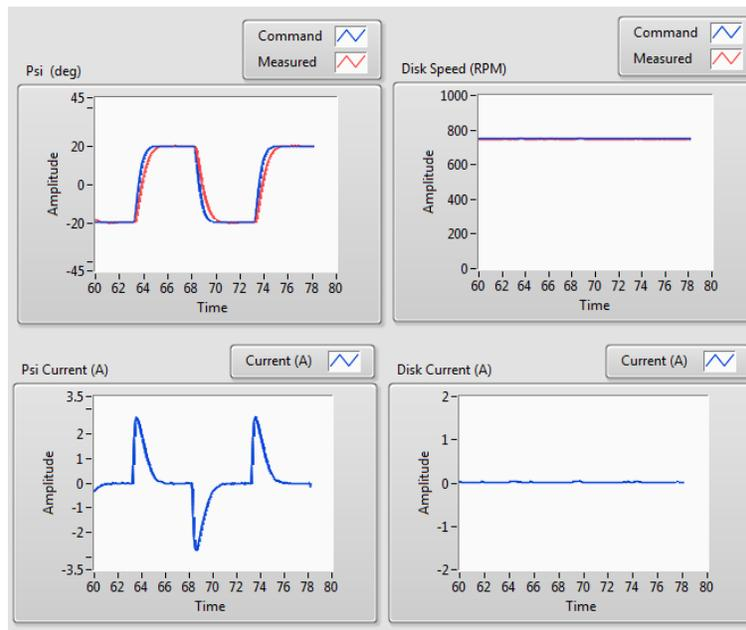

Figure 3.6: Typical response when running control on 3D GYRO system
- The red gimbal should now be going back and forth between the commanded positions at the frequency specified. Examine the position of the red gimbal in the *Psi* scope. You can also view the commanded motor currents in the *Disk Current* and *Psi Current* scopes. The scopes should be displaying responses similar to Figure 3.6.